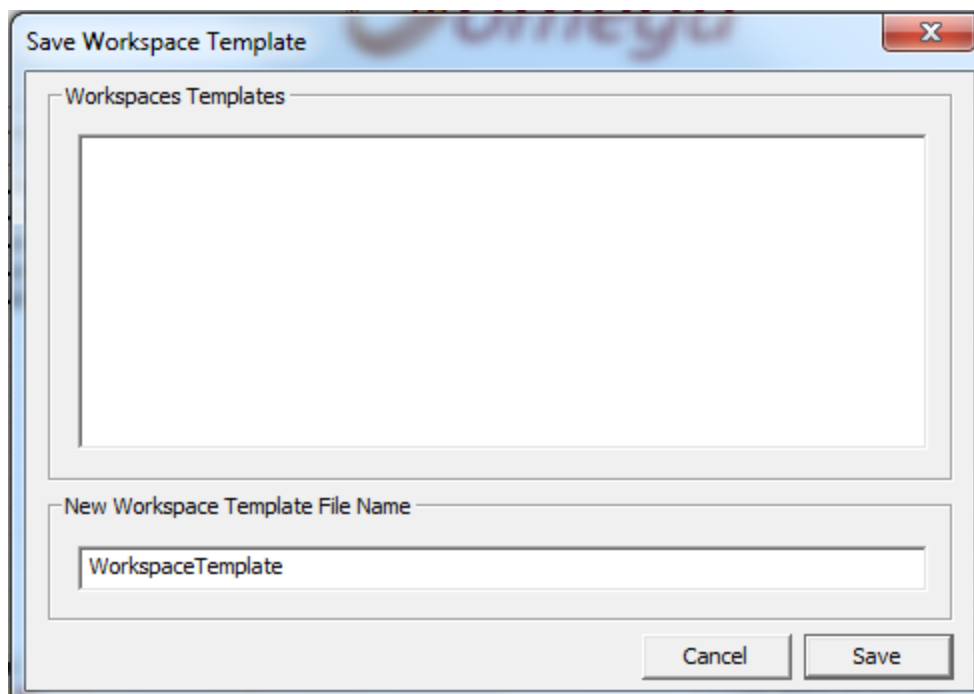

Figure 60: Save Workspace Template
2. Press Next to continue. A Save Workspace Window (Figure 60) will appear.
6. **Save Workspace Window** (Figure 60) will appear. You can change the workspace name or write over the current one.